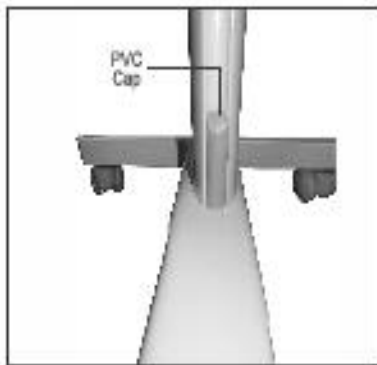

Fig 4
- Cover the bolts with the PVC Caps provided on both the sides (Fig 4).